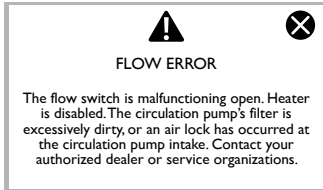
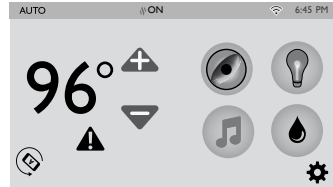

Figure 15.0a
Figure 15.0b
There are a number of unique functions designed into your Jacuzzi spa to protect it from damage and/or to aid in troubleshooting. When an error occurs the spa will notify you by showing the screen below and an error code, Figure 15.0a. Following is a listing of all the possible messages along with their meanings. **Always insist on genuine Jacuzzi replacement parts.**
**Note:** If you tap the display will change to Figure 15.0b. The error icon will remain on the screen as a reminder. If the error is not taken care of or fixed, the error display will reappear in 2 hours, Figure 15.0a.